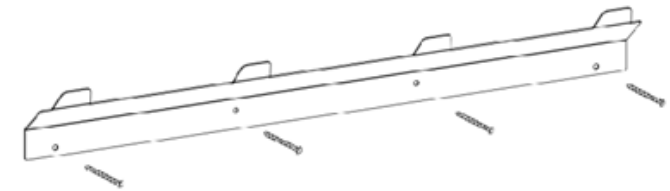

Fig.4
- Attach the top mounting bracket (A) to the wall by fastening the fourchors screws (AA) into the wall anchors.(Fig.4)